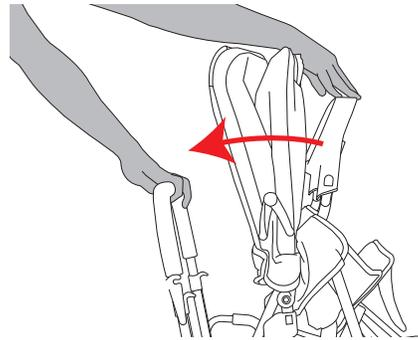

Figure 28
- Once the stroller begins to fold, push the handle all the way forward and down until the stroller is completely folded. See Figure 28.